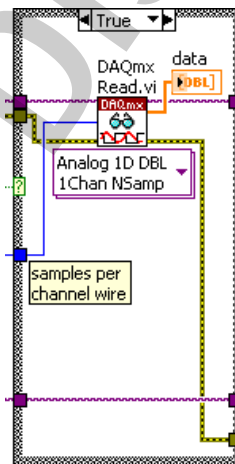

Figure 8-7. True Case of Case Structure
4. Create the True case of the case structure, as shown in Figure 8-7, so that the application only attempts to read if samples are available using the DAQmx Read VI.